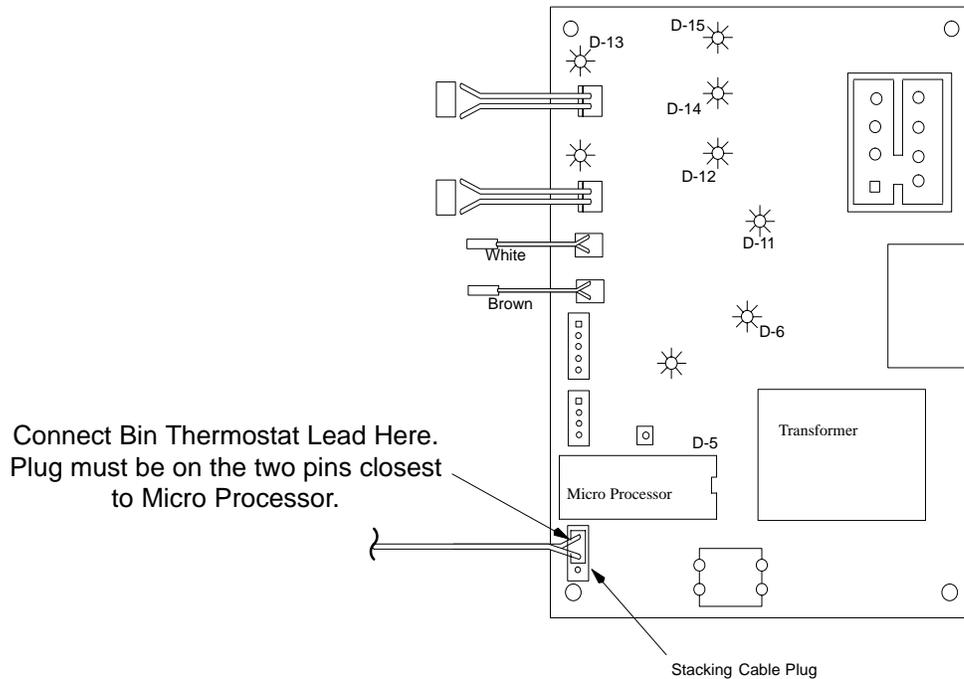

FIGURE 4
12. Connect the thermostat lead to the circuit board as shown in FIGURE 4.